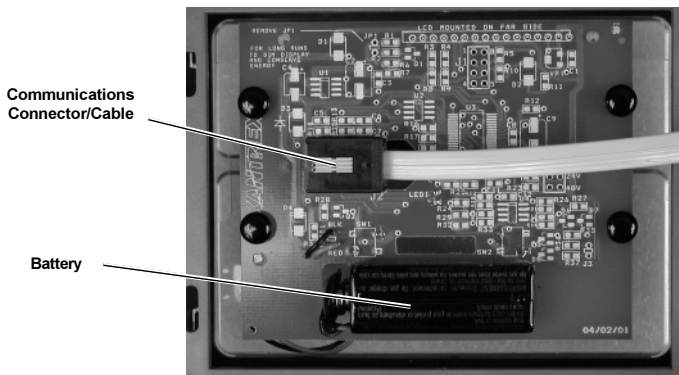

Figure 2-1
- Connect the communications cable (from the Sun Tie XR) to the port on the remote monitor's printed circuit board (Figure 2-1).
- Connect the communications cable jack (from the Sun Tie XR) to the port on the remote monitor's printed circuit board (Figure 2-1).